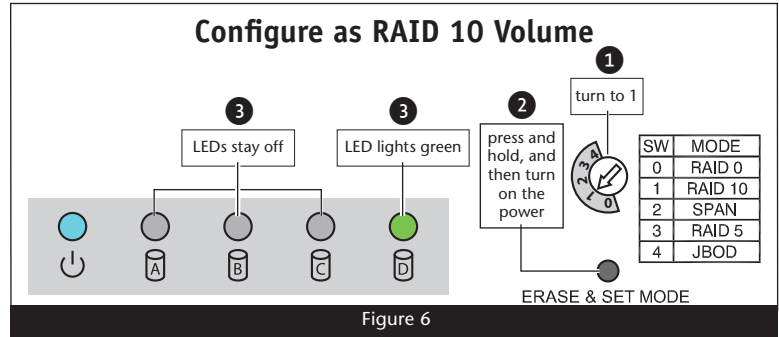

Figure 6
- to the 1 position for RAID 10 (Figure 6)